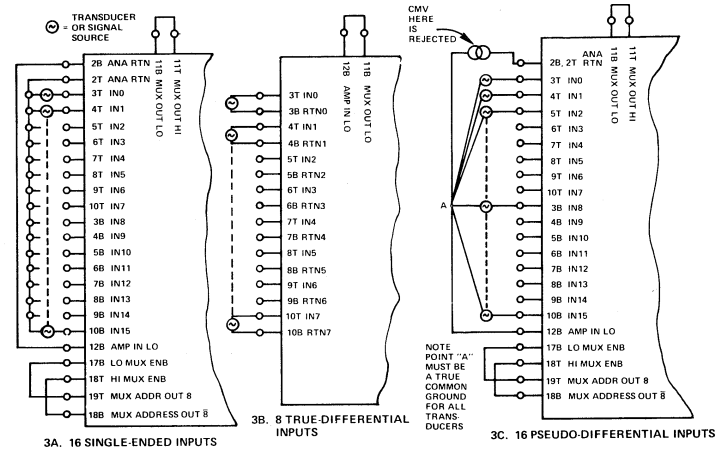

Figure 3. Signal Input Connections for Three Different Configurations
As shown in Figure 3, three input configurations can be used. 16 single-ended inputs (3a) can be connected to the multiplexer, all referenced to analog gnd. In the second configuration (3b), the inputs are connected individually as 8 true differential pairs. In this case the differential amplifier is connected "Differentially" with the output of the MUX. Finally, a "Quasi-Differential" connection (3c) can be realized under favorable ground path conditions. In this configuration the differential amplifier Lo terminal is used as the ground return
3. To minimize signal grounding problems, single-ended input signals should only be returned to ANA RTN (Pin 2B or 2T). If this is not possible, then connect the input signals in either the "true differential" or "pseudo-differential" configurations (see Figure 3).